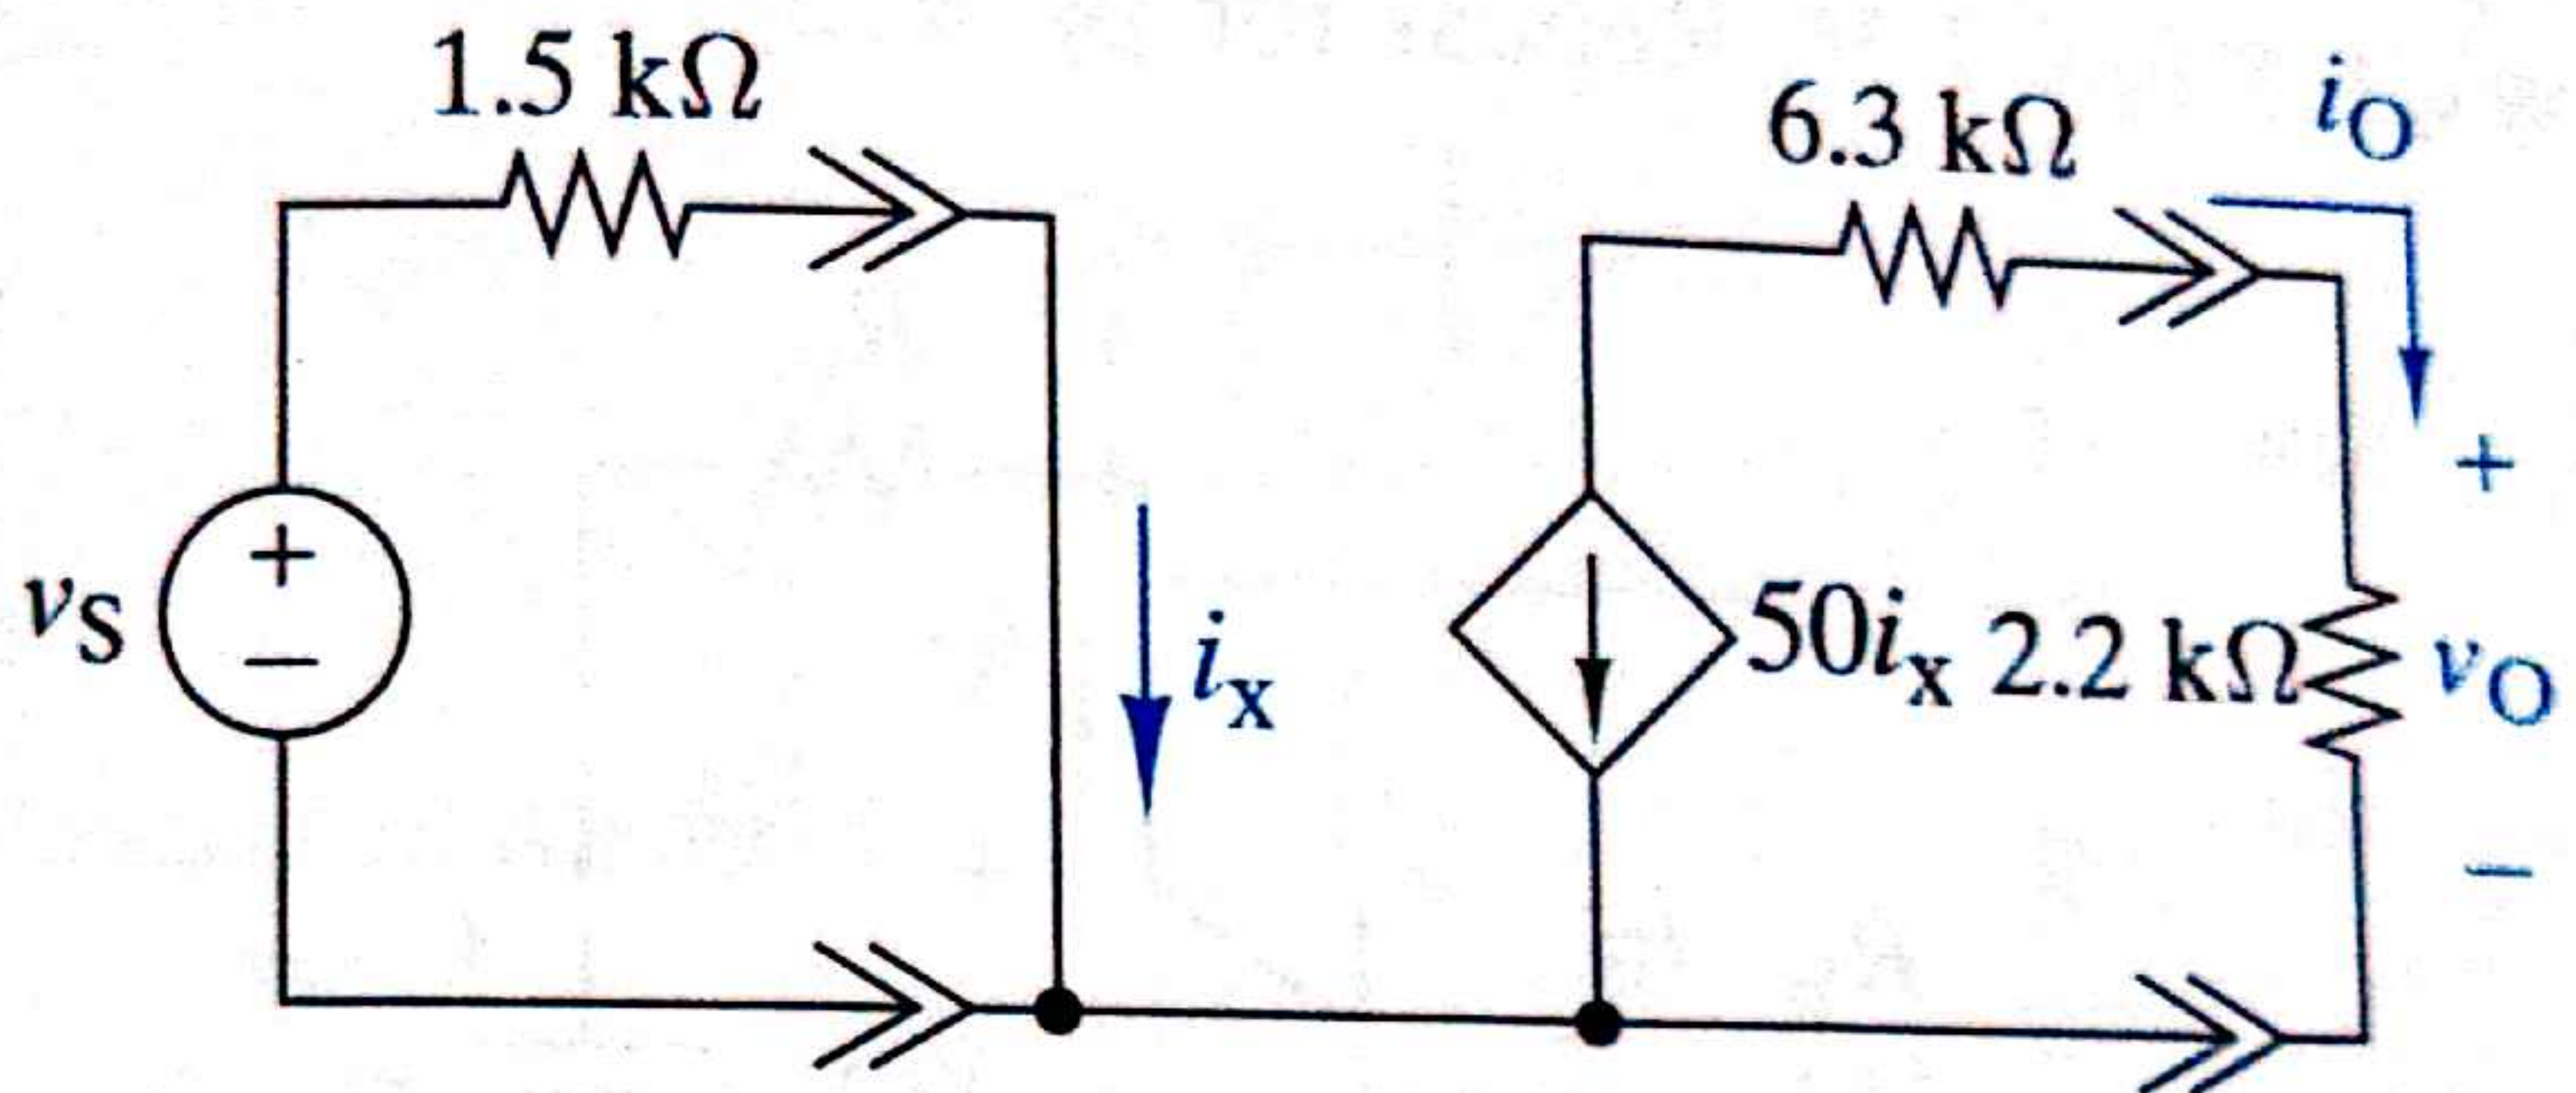

FIGURE P4-4
**4-4 (a)** Find the voltage gain v_o/v_s and current gain i_o/i_x in Figure P4-4.